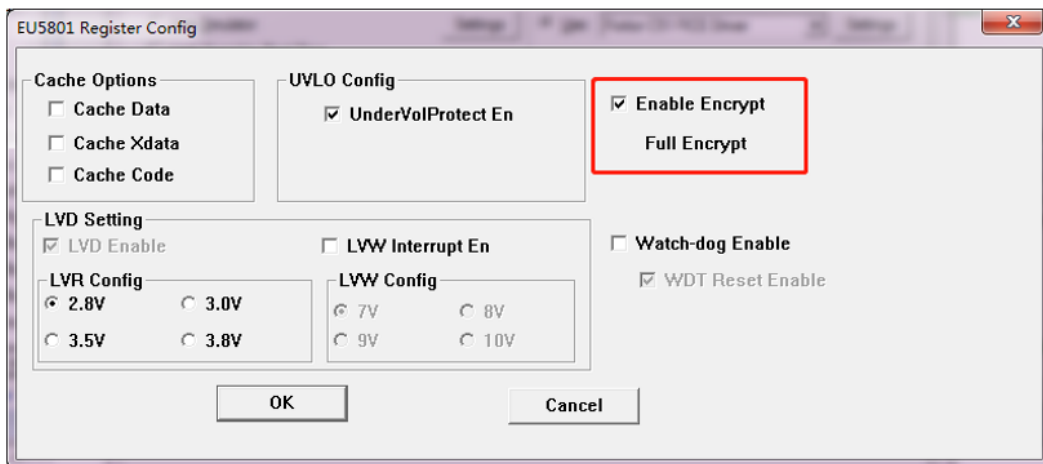

Figure 25-2 Full Code Protection Mode
2. Select the options as shown in Figure 25-2, and click OK. Then compile the project and download it. Get the BIN file and program it to Flash.